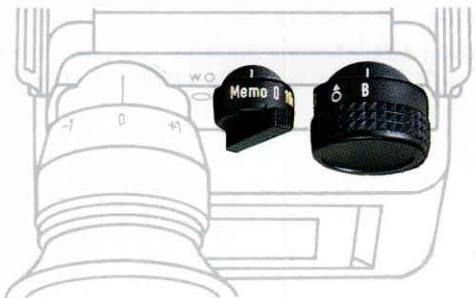

Fig. 18
*Note:* For very long exposures put the main switch to "B", press the shutter release, put switch 11 to "Memo" and release the shutter button. The shutter will remain open until it is cancelled by turning the memo switch 11 back to "0" (fig. 18).